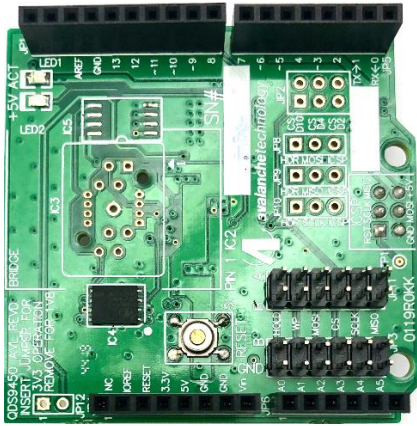
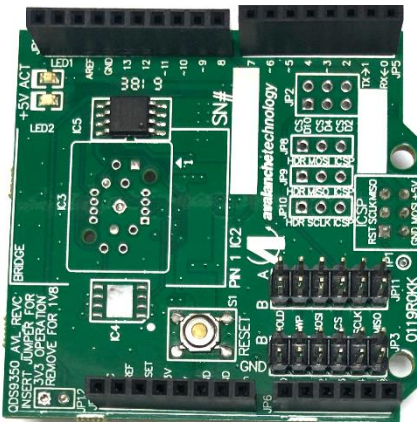

Figure 1: Avalanche P-SRAM Evaluation Board populated with an WSON-8 MRAM device
Figure 3: Avalanche P-SRAM Evaluation Board populated with an SOIC-8 MRAM device
1. Attach the Avalanche P-SRAM evaluation board on top of the Arduino UNO host board via the UNO R3 headers (refer to Figures 1 and 2 or Figures 3 and 4 on page 5).